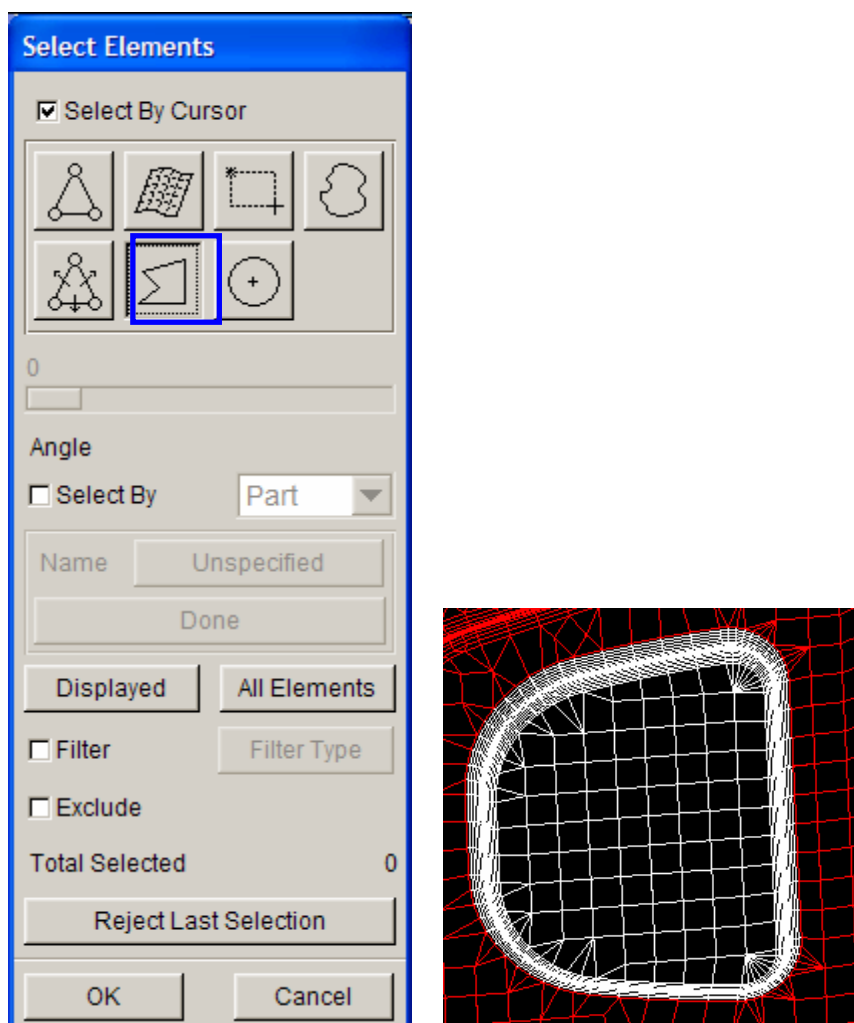

Figure 5.62 Select elements
33. Click **Select** button to display the SELECT ELEMENTS dialog box illustrated in Figure 5.62.
34. Select the highlighted elements in Figure 5.62 using the **Multi-Point Region** function.